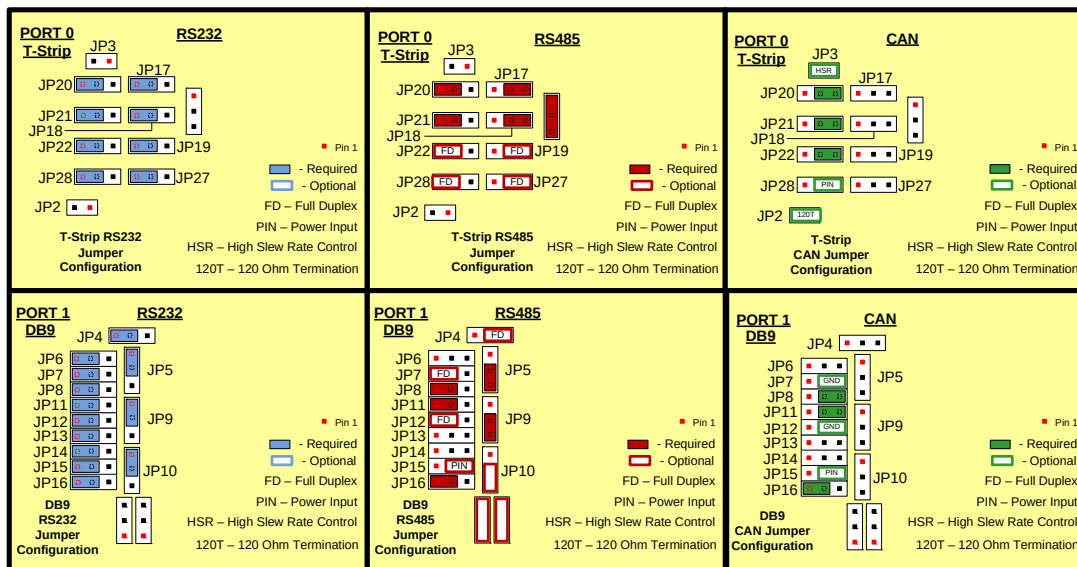

Figure 2-1 Jumper settings
4. Move the jumper shunts to reflect the desired settings. See Figure 2-1.